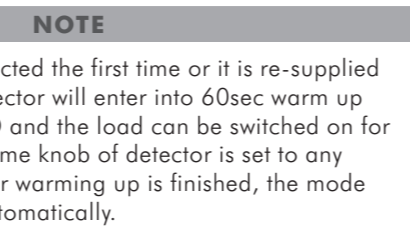

FIG. 20
The purpose of walk test is to select a proper installation place to get the optimal detection range. Set meter knob at "+", Time / Time1 knob at "TEST" (refer to step 4.1), then you can conduct a walk test and the detector is uncontrolled by Lux setting (See FIG.20).
- Walk from outside across to the detection pattern until load is on 2sec then off. The next trigger should be 7.5sec interval. (see FIG.20)